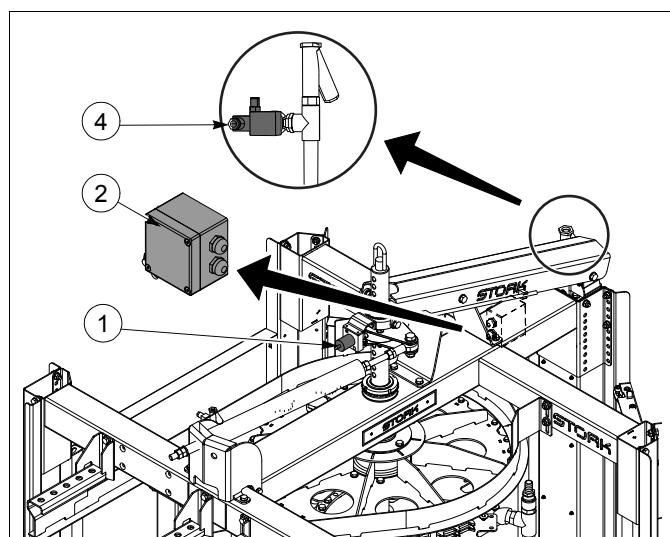

fig. 13 Electrical connections
See fig. 13.
- Connect magnetic valve **4** to the overhead conveyor Control Panel. See paragraph 5.2.1.2 Connect magnetic valve. See fig. 13.